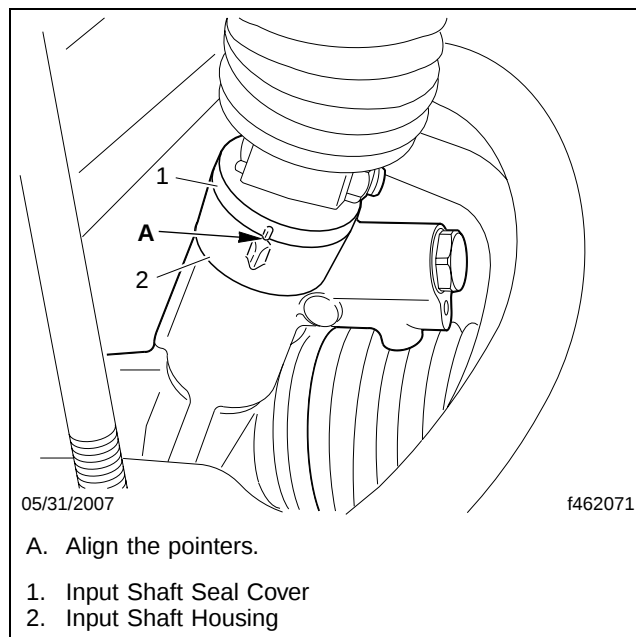

Fig. 14, Pointer Alignment
- 51.2 Align the pointers on the input shaft seal cover and the input shaft housing. See **Fig. 14**.
- 56.2 With the wheels on turnplates, center the rack travel by aligning the timing pointers on the input shaft seal cover and the input shaft housing. See **Fig. 14**.